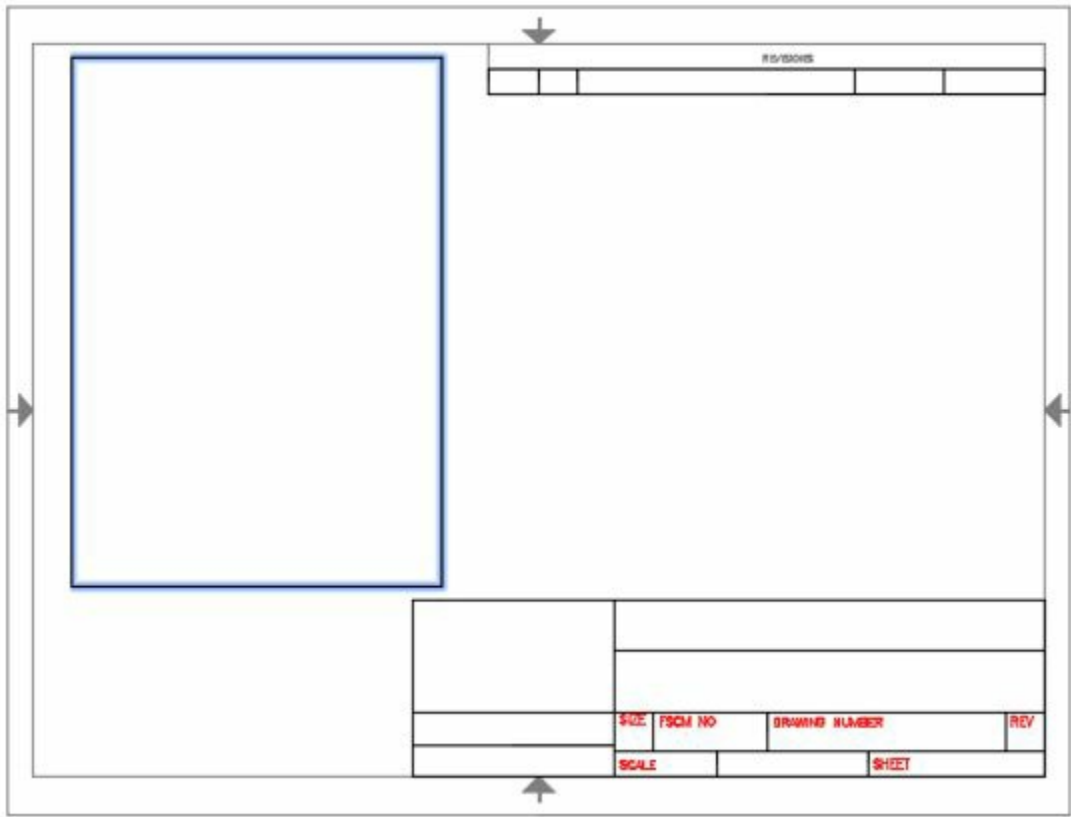
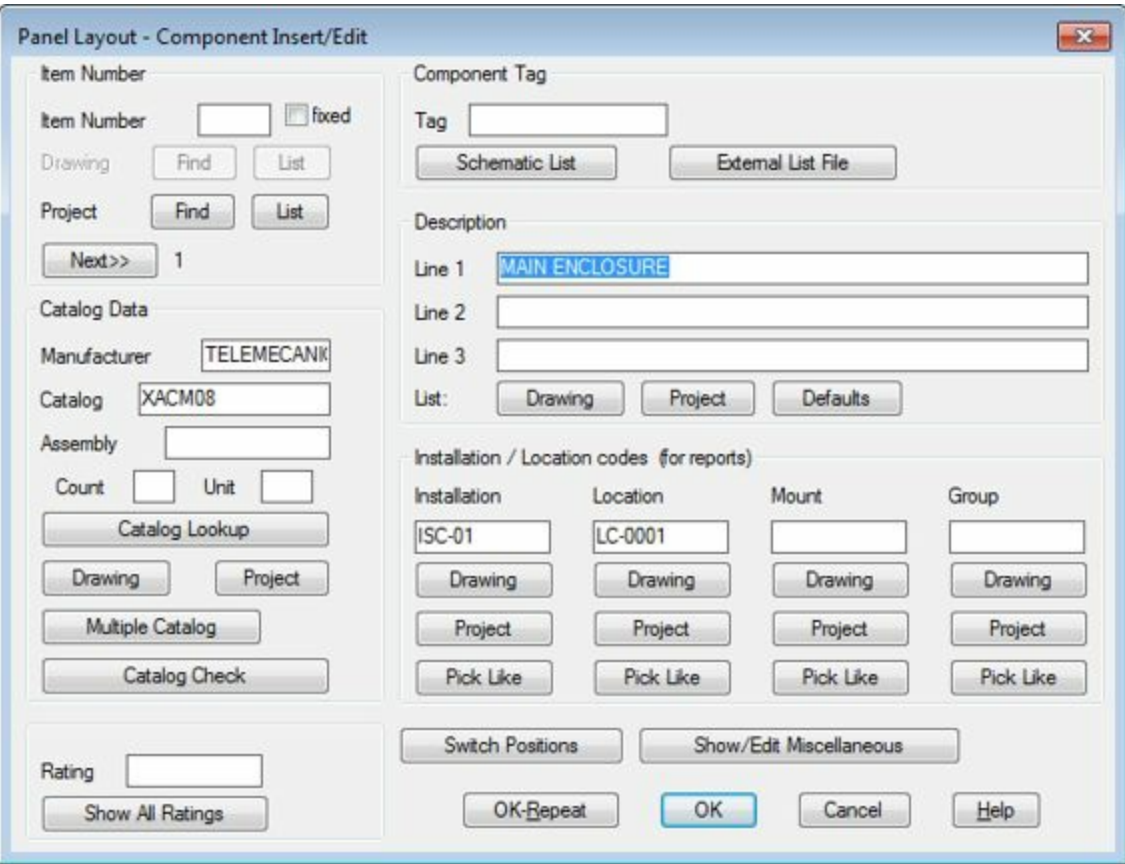

Figure-52. Enclosure placed
Figure-53. Panel Layout dialog box for enclosure
- Click in the drawing area to specify the insertion point. You are asked to specify the rotation angle for the current footprint. Enter **0** at the command prompt. The enclosure will be placed; refer to Figure-52 and the **Panel Layout** dialog box will be displayed; refer to Figure-53.